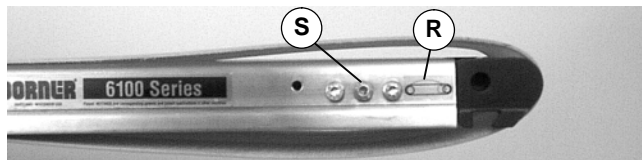
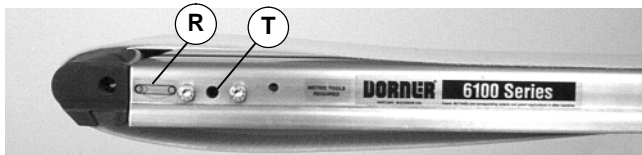

Figure 19
Figure 20
6. On tension end of the conveyor identified with  label (R of Figures 19 & 20), loosen screw (S of Figure 19). Rotate pinion gear (T of Figure 20) clockwise until headplate shoulder contacts conveyor frame.
10. On tension end of the conveyor identified with  label (R of Figures 19 & 20), loosen screw (S of Figure 19). Rotate pinion gear (T of Figure 20) clockwise until headplate shoulder contacts conveyor frame.
9. On tension end of the conveyor identified with  label (R of Figures 19 & 20), rotate pinion gear (T of Figure 20) counter-clockwise to a distance of 1” (25 mm) (U of Figure 34).
10. Tighten lock screw (S of Figure 19) to 40 in-lb (4.5 Nm).